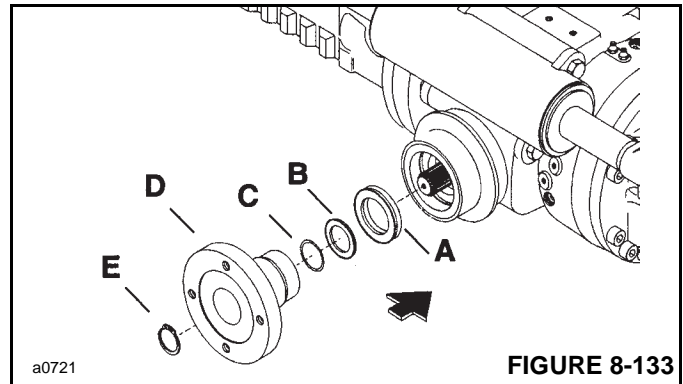

**FIGURE 8-132**
3. Install a new O-ring on the planetary carrier (Figure 8-132).